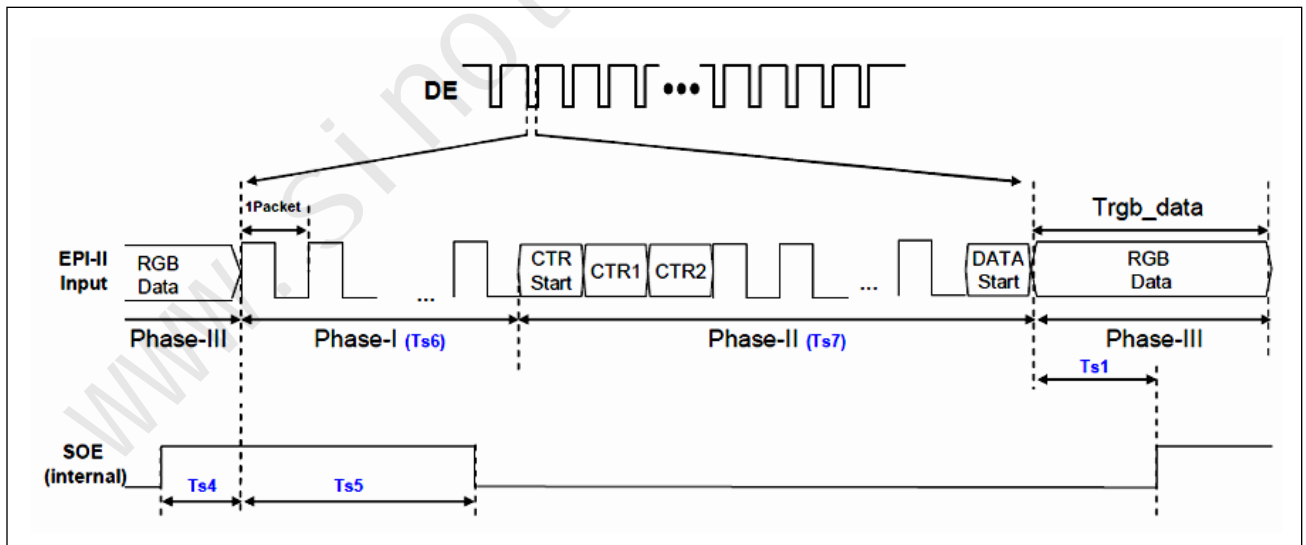

FIG 4. SOE Width & Timing
6. Viewing angle is the angle at which the contrast ratio is greater than 10. The angles are determined for the horizontal or x axis and the vertical or y axis with respect to the z axis which is normal to the LCD module surface. For more information, see the FIG. 4.